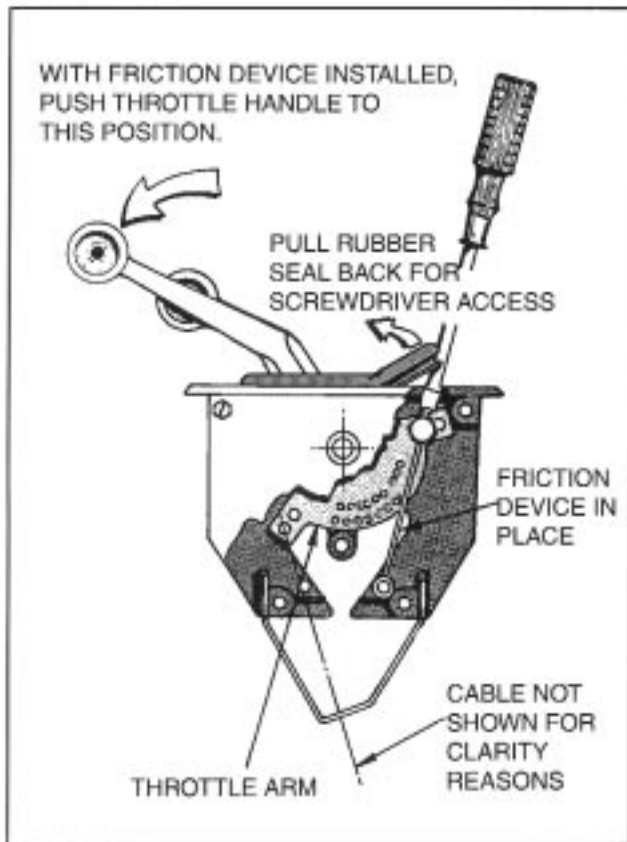

FIGURE 8
1. Push the throttle lever away from the friction device, as shown in Figure 8.
REFER TO FIGURE 8 FOR VIEW OF PARTS